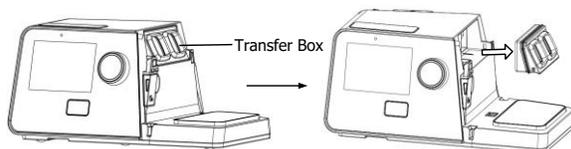

Fig. 18-2
(1) **Removing the Transfer Box:** First remove the water chamber from the device, and then remove the transfer box, as shown in Fig. 18-2.